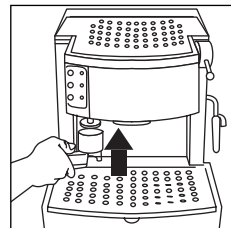

fig. 9
3. Distribute the ground coffee evenly and press it lightly with the coffee tamper (fig. 9).